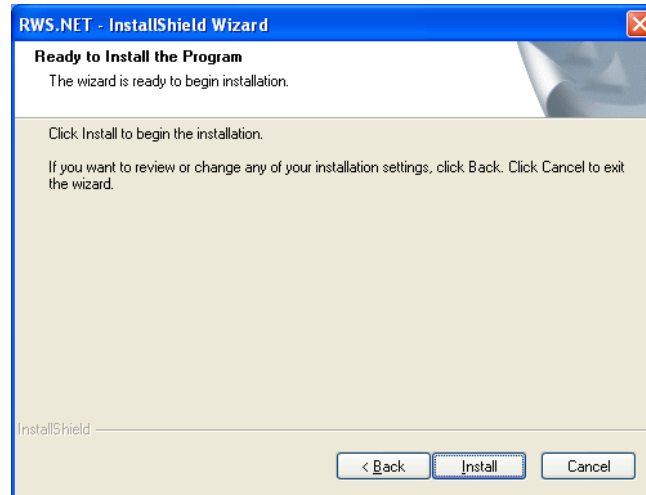

Figure B-13: Ready to Install the Program Window
5. Click **Next** to display the *Ready to Install the Program* window (Figure B-13).